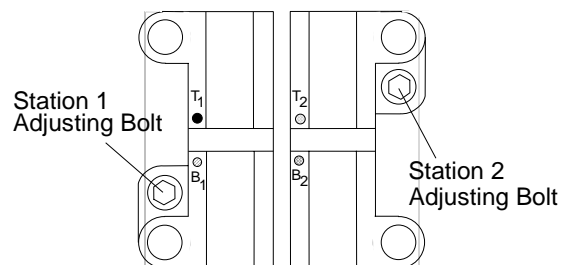

Figure 14 Die Block Assembly Adjusting Bolts
2. Turn on micrometer scale and reset to zero (0).
3. Adjust die station using supplied 1/4" T-handle wrench in station die block adjusting bolt (Figure 14).